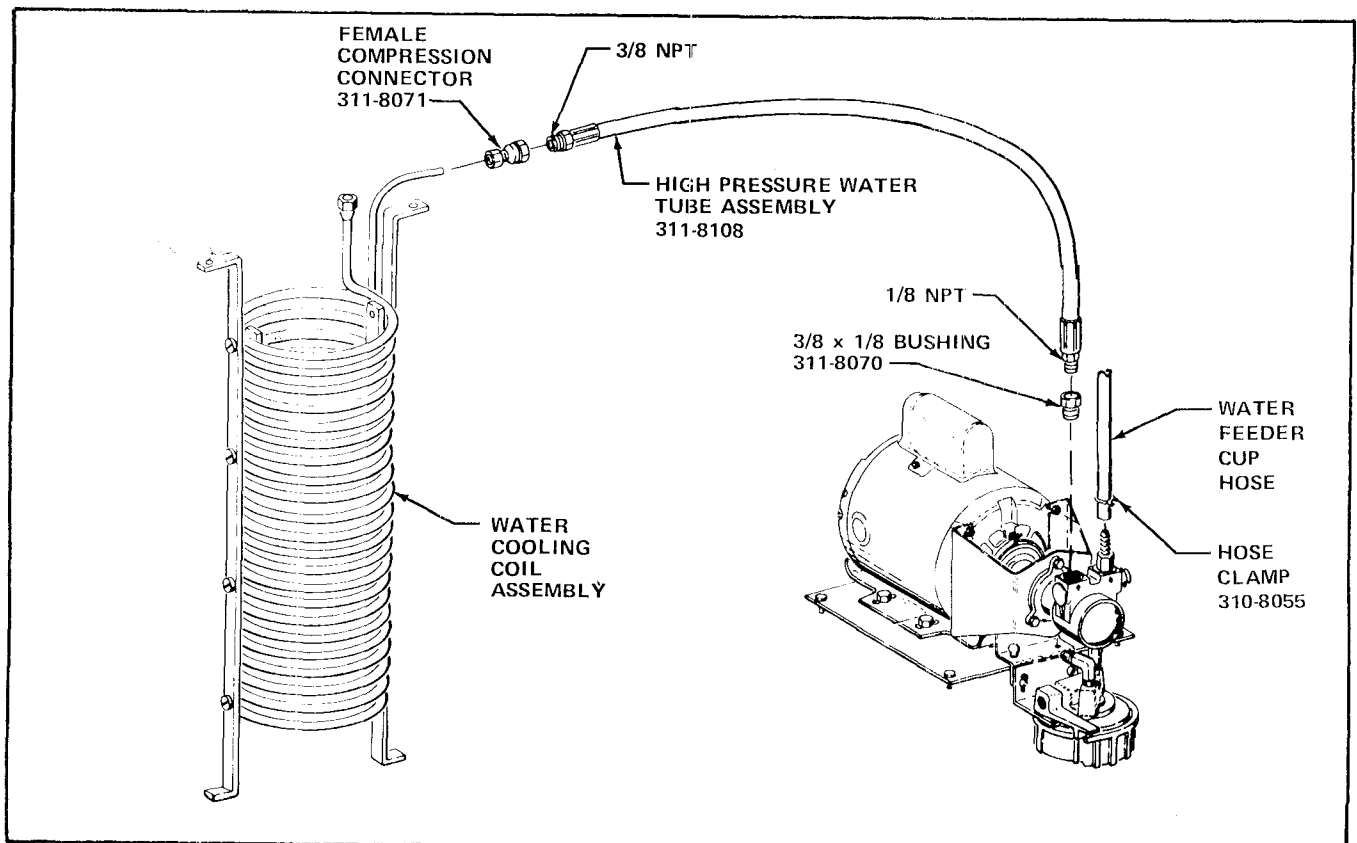

FIGURE 8
3. Install the 3/8 x 1/8 Bushing, Part Number 311-8070, included in the Kit, on the 1/8 NPT Fitting of the High Pressure Water Tube Assembly, Part Number 311-8108, included in the Kit. See Figure 8.
4. Install the Female Compression Connector, Part Number 311-8071, included in the Kit, on the 3/8 NPT Fitting of the High Pressure Water Tube Assembly. See Figure 8.
5. Install the Bushing end of the High Pressure Water Tube Assembly in the Water Pump Outlet Port. See Figure 8.
6. Install the Female Compression Fitting end of the High Pressure Water Tube Assembly, over the end of the Water Cooling Coil. Tighten the Compression Nut finger tight and then turn an additional 1 1/2 turns, using two wrenches. See Figure 8.
7. Install the Water Feeder Cup Hose and Hose Clamp, Part Number 310-8055, included in the Kit, on the Hose Connector at the Inlet Port of the Water Pump. See Figure 8.